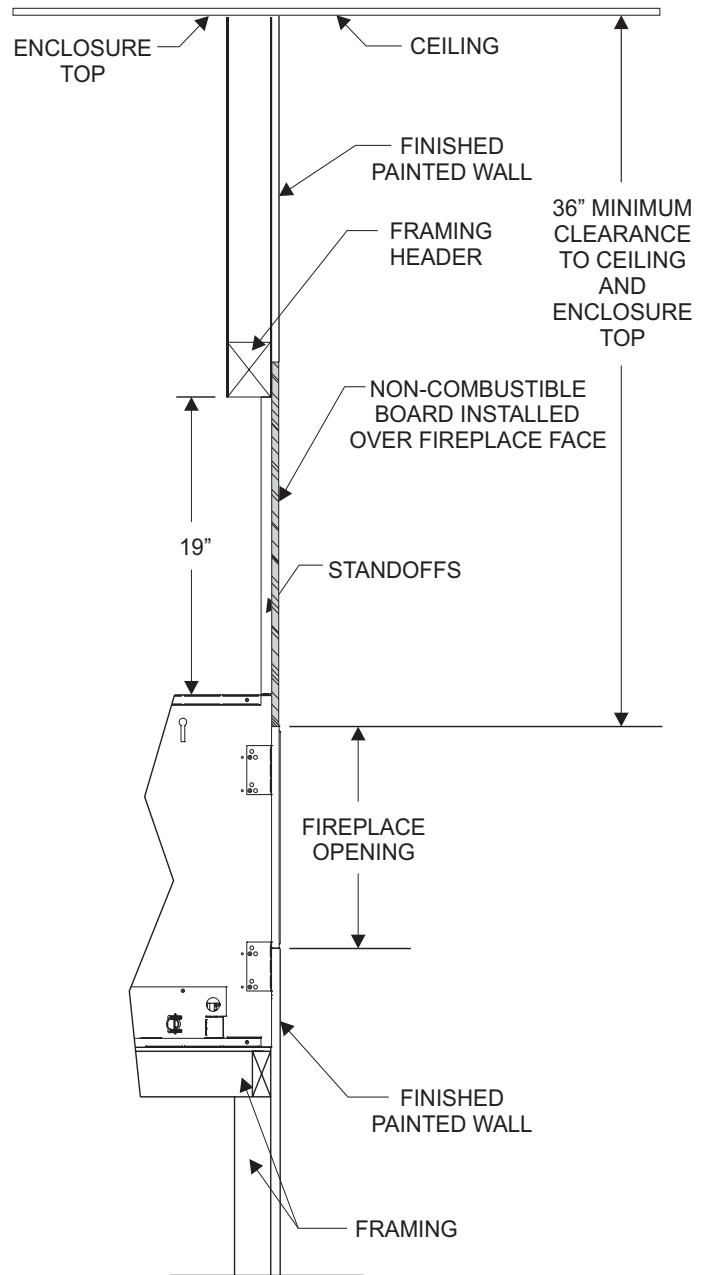

**Figure 42**
- Screws are allowed in framing and top mounting brackets. No screws are allowed into the fireplace. **See Figure 42.**